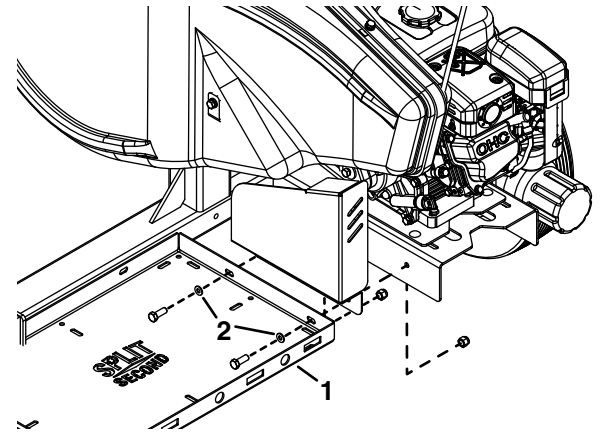

FIGURE 2
1. On the Log Splitter, remove the back two bolts that attach the belt guard to the engine mount bracket. You will use these holes and hardware to attach the Tool tray as shown in Figure 2.
Attaching Tool Tray (Figure 2)